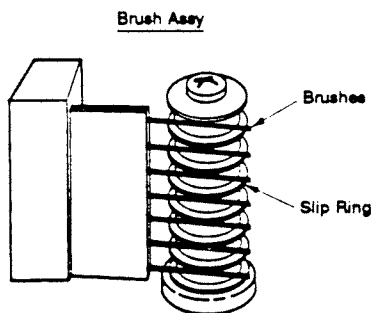

FIG. 2
4. With Alcohol soaked Texwipe®, carefully clean the brush contacts, contact grooves of slip ring Assy. See Fig. 2
1. Adjust the vertical position of the brushes. Make sure that they're aligned to the center of the slip ring grooves. As shown in Fig. 2
Grease the cam gear Ⓒ in the tape-unloaded position, as shown in Fig. 2. Then set the machine to the tape-loaded position and apply grease to the areas which were inaccessible before. The procedure to set the machine in the tape-loaded position is described above.